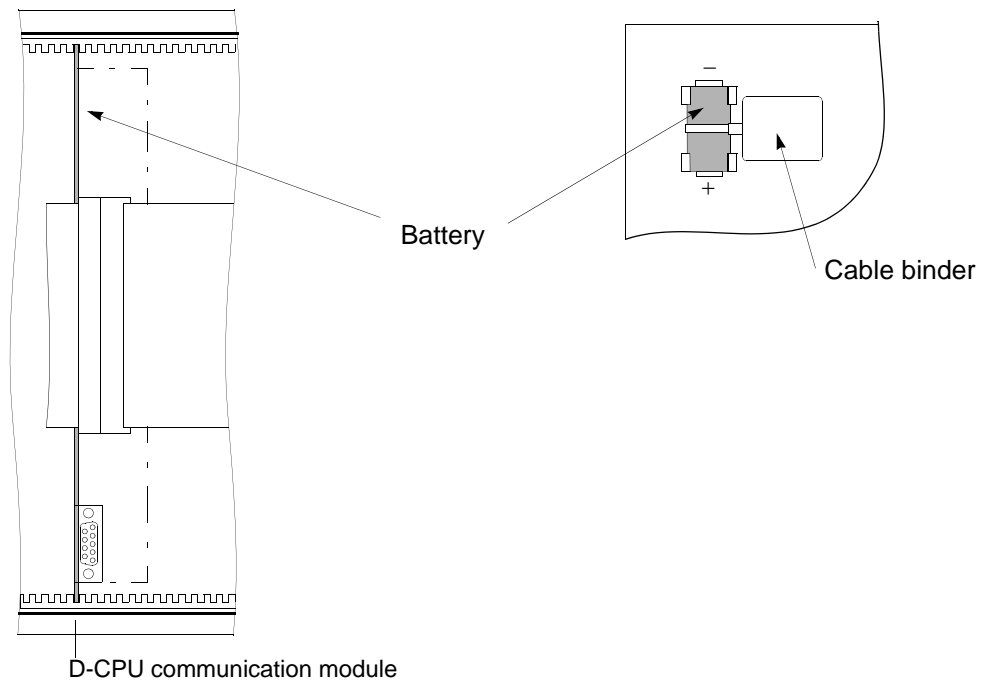

Figure 8-5 Front view after removing the front panel, and location of the buffer battery
- ☐ The battery is located on the top front of the D-CPU communication module (Figure 8-5, page 304).
- ❑ Press the new battery firmly into its snap-in holder (see Figure 8-5, page 304).